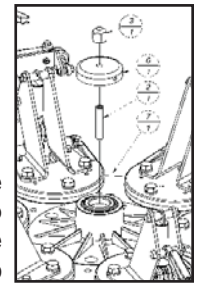

Fig 4
4. Place the tapered end of the bearing into the top race of the printwheel assembly and hand tighten the cap on screw until snug. The cap on screw can then be tightened an additional 1/4 turn by inserting a rod into the hole in the top of the bearing cap. (Fig 4)